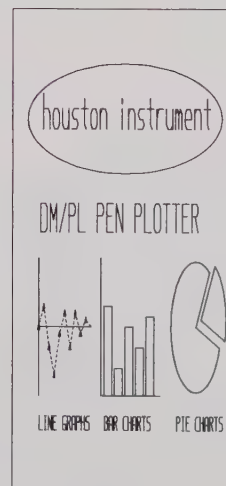

**FIGURE 2-8
11. Note that the test plot is scaled as shown in Figure 2-8. The important thing to note is that the entire plot has been scaled to fit within the scale box. The aspect is distorted since the proportions of the original plot were not used.